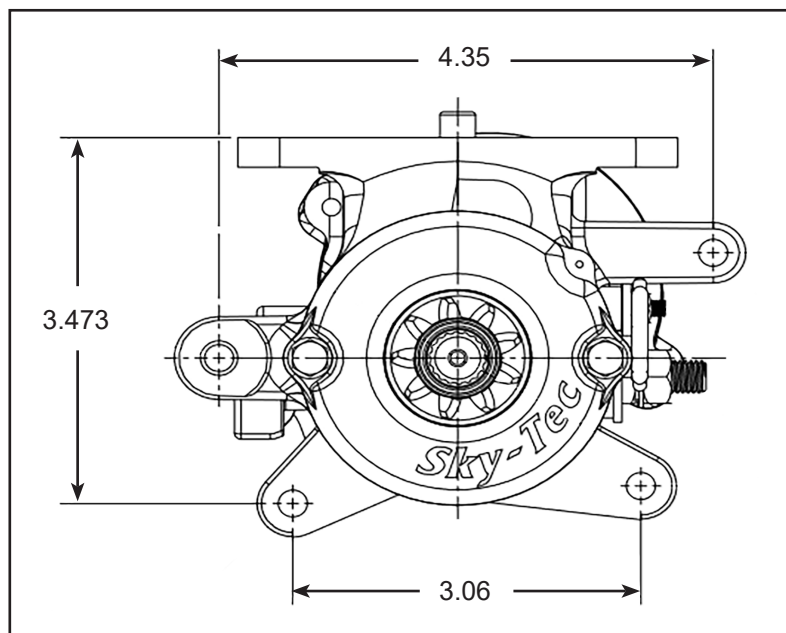
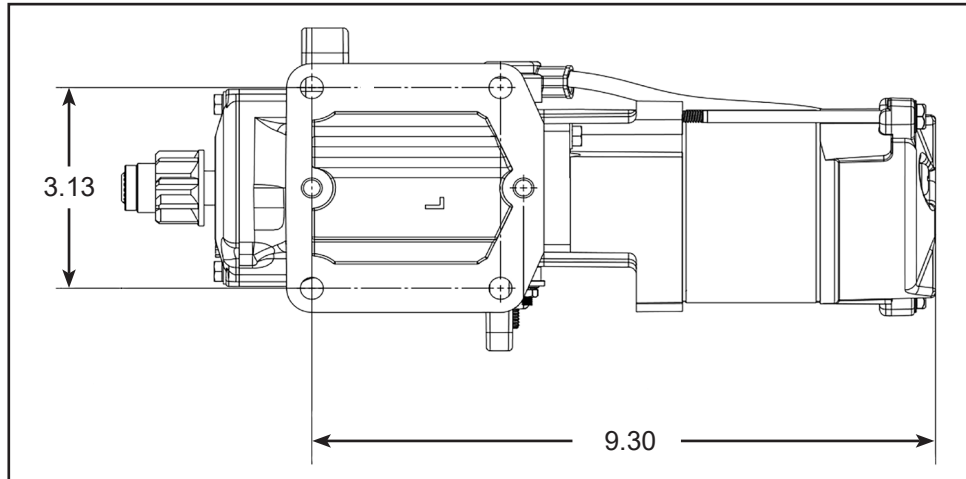
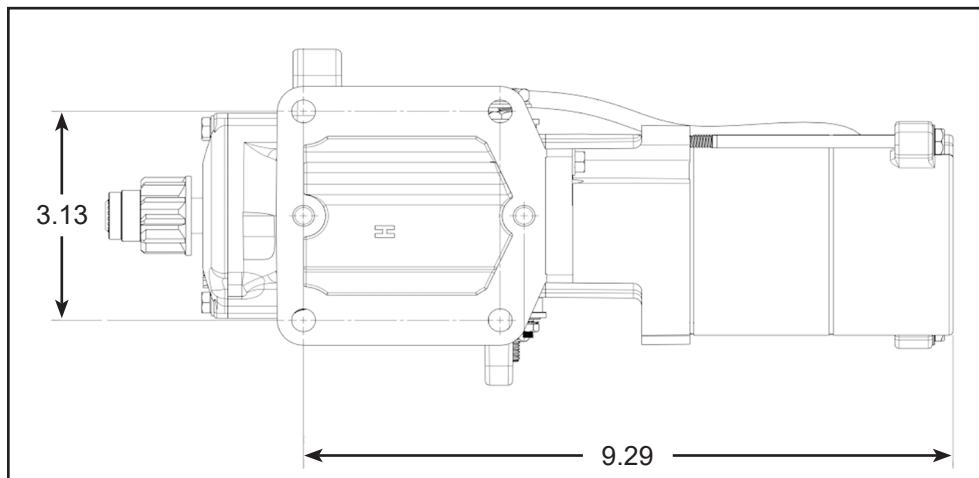

Figure 2.2A – 122NL and 122NL/EC Dimensions - Typical
Figure 2.2B – 122NL/EC Dimensions - Typical
Figure 2.2E – 122NL, 149NL, 149NL/EC, 149NLR,
- (1) The battery is the source of electrical power whenever the BAT Master Switch is ON and is the source of power for starting the aircraft.
- A. The mount assembly (1) provides the mounting flange for attachment of the starter to the engine and supports the bearing through which the pinion shaft protrudes to expose the pinion gear.
- B. The solenoid/motor assembly (4) is the rotating element of the starter. It's comprised of a shaft upon which are mounted a lamination stack, conductors that form the winding and a commutator to which the windings are electrically connected.
- C. Brushes, located in the solenoid/motor assembly (4), provides a rotating connection through which the armature assembly may be electrically energized.
- D. Basic dimensions for the 122NL series starters are found in Figures 2.2A, Figure 2.2E, and 2.2F.
- E. Basic dimensions for the 122NL/EC series starters are found in Figures 2.2A thru 2.2C.
NOTE: Figure 2.2B is for model 122NL/EC only. See Figures 2.2E and 2.2F for the remaining 122NL model dimension information.
NOTE: Figure 2.2C is for model 122NL/EC only. See Figures 2.2E and 2.2F for the remaining 122NL model dimension information.